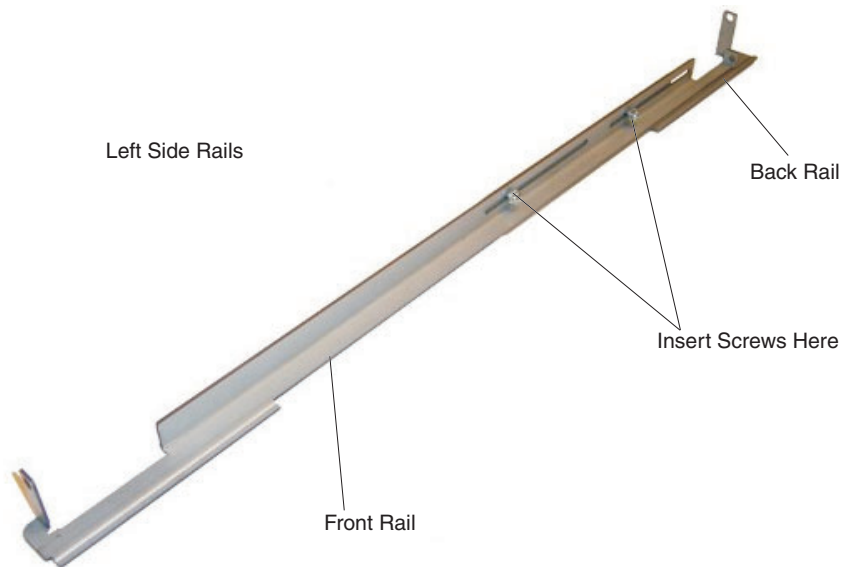

Figure 6. Assembling the left side rail
2. Locate the front and back rails for the left side. Position the rails as shown in Figure 6, with the front rail on top of the back rail. Spread the rails to the distance that you measured in 1.
3. Using a #2 Phillips screwdriver, attach the rails together with two M5 screws (the larger silver screws from the kit), as shown in Figure 6. Leave the screws loose so that you can adjust the reach of the rails, if necessary.